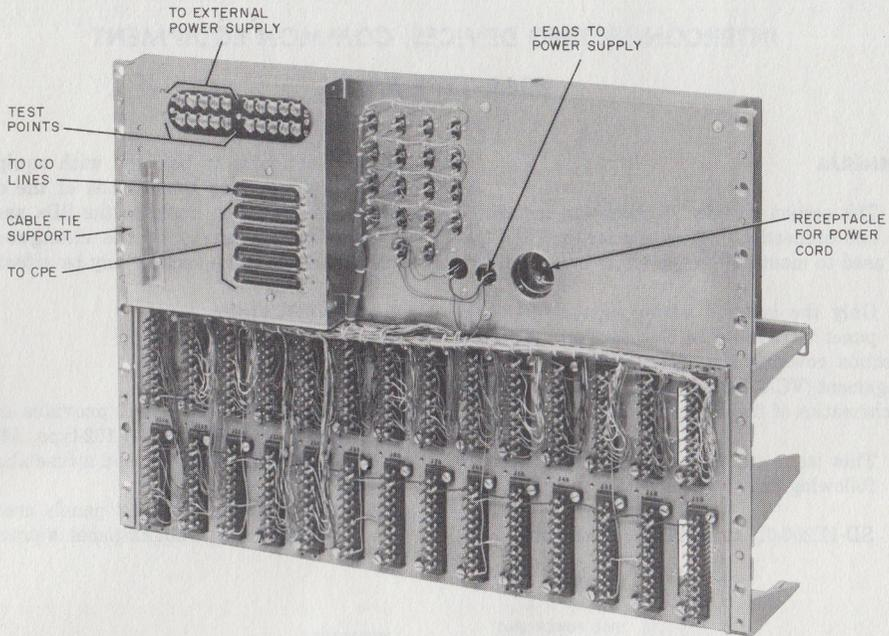

Fig. 2—604A2 Panel (Rear View)
4.02 Refer to Fig. 2 and 7 for connections to CO lines and to CPE.